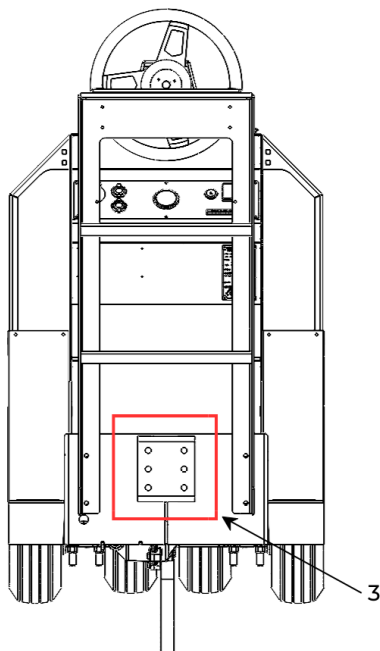

Figure 37. Hitch Mounting.
- Hitch mounting area (3) (see Figure 37).